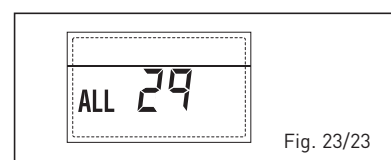

Fig. 23/23
– **HEATING RETURN PROBE ANOMALY “ALL 30” (fig. 23/24)**